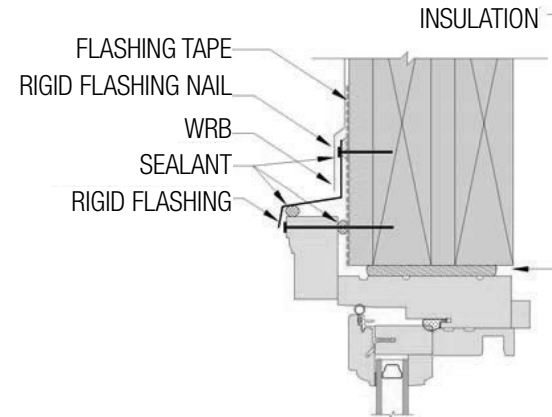

FIG. 15: HEAD JAMB
- A) Apply sealant: Apply a bead of sealant at the vertical and horizontal contact surface of the rigid metal flashing. (Fig. 15)
- B) Apply the rigid metal flashing. The flashing should extend approximately 1/8" past the edge of the brickmould on each side. Nail the flashing to the rough opening using at least a 1" roofing nail every 8"-10" at approximately 1/2" from the top of the rigid flashing. Ensure that the nail is compatible with the rigid flashing material to prevent corrosion. (Fig. 15 & 16)
- C) Overlap the WRB over the rigid metal flashing. Trim the excess WRB beyond the bead of sealant. (Fig. 15)
- A) Insulate between the window frame and the rough opening using minimally expanding window and door spray foam insulation. Use caution to not overfill the gap, causing the jambs to bow. It is not recommended to apply trim to the unit until the foam has cured to allow the excess to escape. (Fig. 15, 17, 18 & 19)